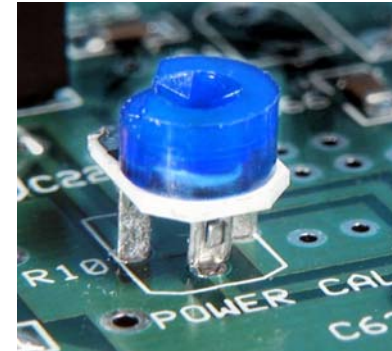

Figure 20. Installing PC Board Pots. Orient the center pin toward the beveled end of the silk-screened outline.
Install the 100 k-ohm (104) potentiometer R10 (Power Cal) in the upper left quadrant of the PCB. The center lead goes toward the beveled end of the silk screen outline (see Figure 20). The shoulders on the leads should touch the top of the PCB. This pot also may be marked 15K. That is a manufacturer's mark, not the value.